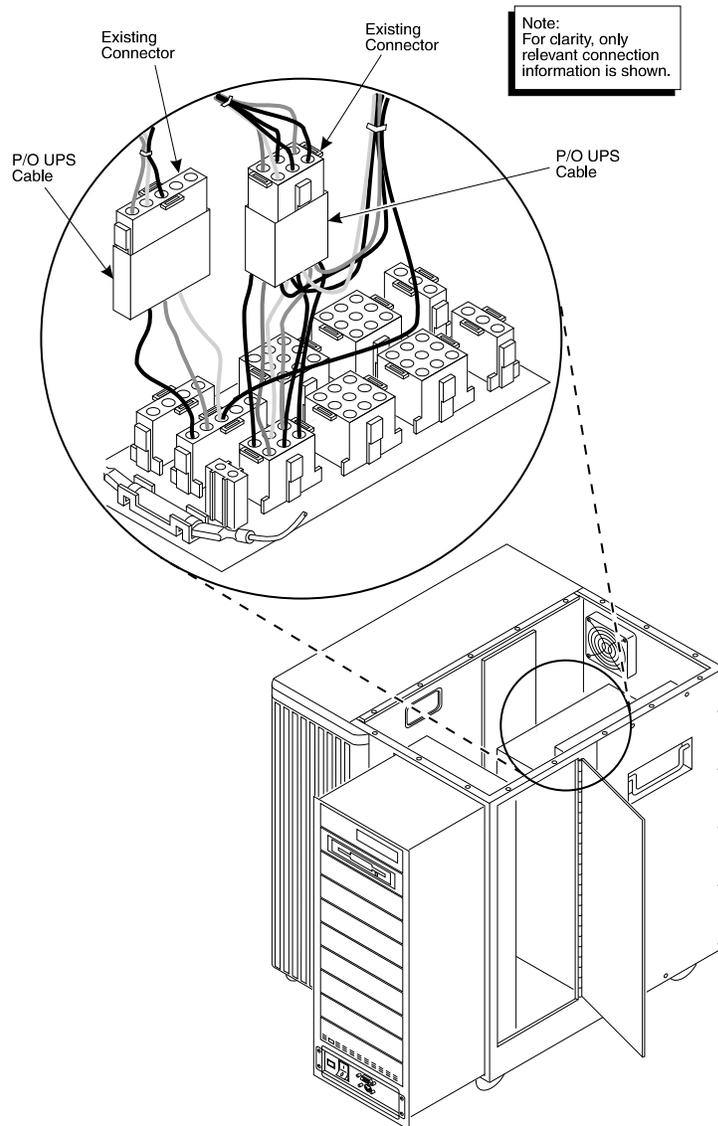

Figure 4-4. Uninterrupted Power Supply Connections
9. Assemble the RMB uninterrupted power supply (UPS) cable to the platform's UPS and UPS status cable as shown in Figure 4-4.